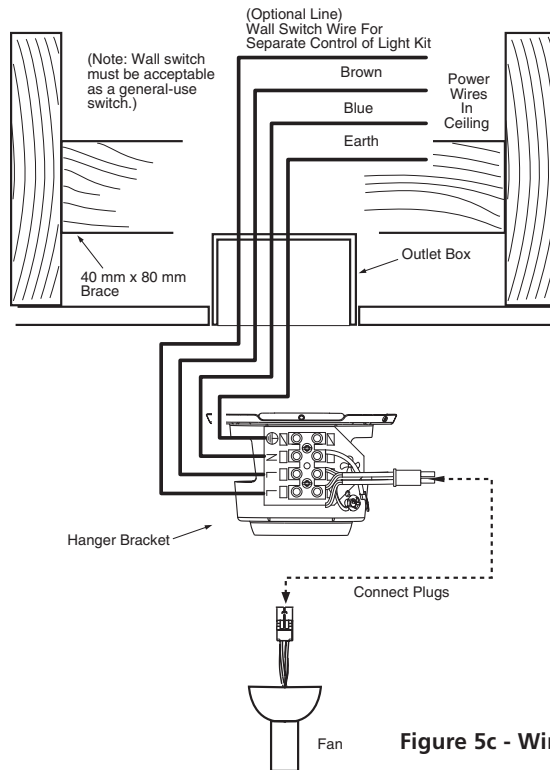

Figure 5c - Wiring Diagram
Use Figures 5c, 5d and 5e for reference in making the following electrical connections.
5. Connect the motor leads to the harness assembly attached to the hanger bracket and terminal block. See Figure 5c, 5d and 5e.